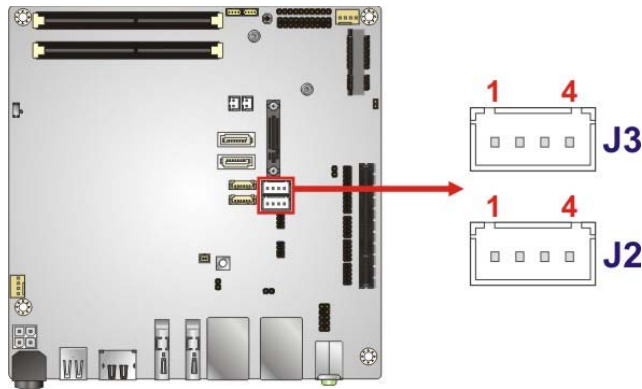

Figure 3-6: ccTalk Connector Locations
- CN Location:** See **Figure 3-6**